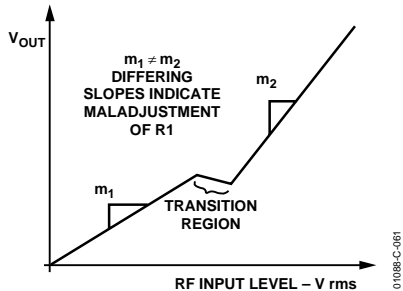

Figure 61. Slope Adjustment
5. Set R1 so that the transfer function's slopes are equal on both sides of the transition zone. This is perhaps best accomplished by making a plot of the overall transfer function (using linear voltage scales for both axes) to assess the match in slope between one side of the transition region and the other (see Figure 61). Note: it may be helpful to adjust R3 to remove any large misalignment in the transfer function in order to correctly perceive slope differences.